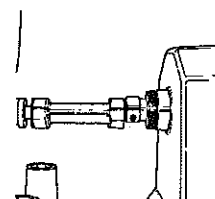
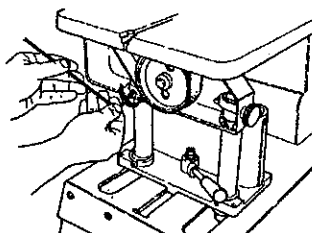
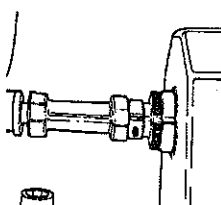
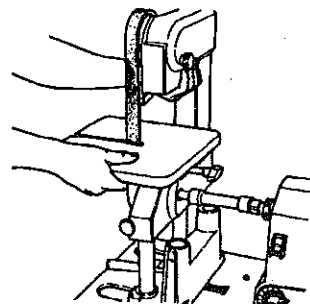

Fig.E-8
Fig.E-11
Fig.E-10
Fig.E-9
11. Fig.E-8 shows typical vertical misalignment. After you have horizontally aligned the Strip Sander to the drive shaft hub (31), lift the Strip Sander as in Fig.E-9, until the coupler vertically aligns with the drive shaft hub. When they are vertically aligned, shown in Fig.E-10, tighten the Strip Sander tube setscrews. See Fig.E-11. Recheck the vertical alignment. If it is off, re-do it.